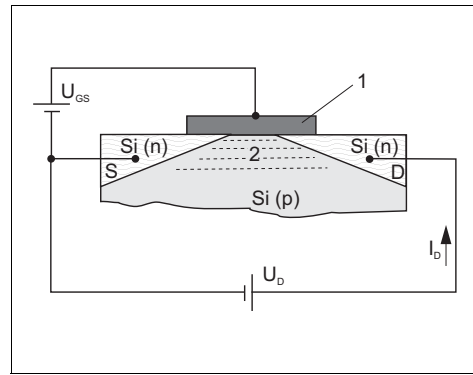
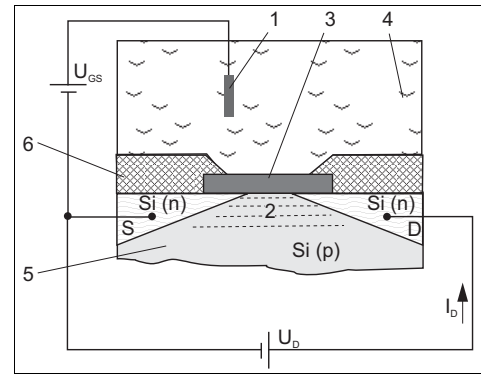

Fig. 1: Principle MOSFET
Fig. 2: Principle ISFET
Ion-selective field effect transistors use an MOS 1) transistor arrangement (see Fig 1) where the metallic gate (pos. 1) is not a control electrode. Instead, the medium (see Fig 2, pos. 3) in the ISFET is in direct contact with the gate isolator layer (pos. 2). Two strongly N-conducting areas are diffused in P-conducting substrate (see Fig 2, pos. 5) of the semiconductor material (Si). These N-conducting areas are current supplying ("Source", S) and current accepting ("Drain", D) electrodes. The metallic gate electrode (in case of the MOSFET) resp. the medium (in case of the ISFET) forms a capacitor with the substrate below. A potential difference between gate and substrate ( $U_{GS}$ ) causes a higher electron density between "Source" and "Drain". A N-conducting channel (pos. 2) is formed, i.e. a drain current ( $I_D$ ) is induced.